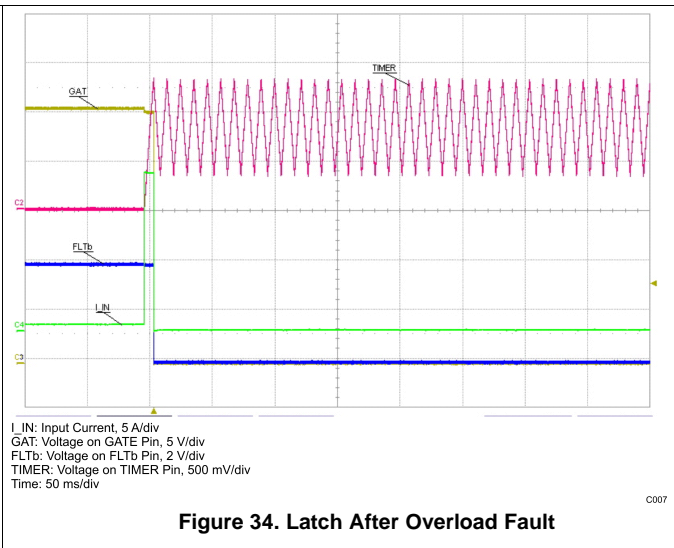

Figure 34. Latch After Overload Fault
The *Typical Application (12 V at 10 A)*, and oscilloscope plots shown in Figure 27 through Figure 29 and Figure 31 through Figure 34, demonstrate many of the functions described previously.
- In latch mode, the GATE remains low and the TIMER pin continues to charge and discharge the attached capacitor periodically until TPS24710/12 is disabled by UVLO or EN as shown in Figure 34.